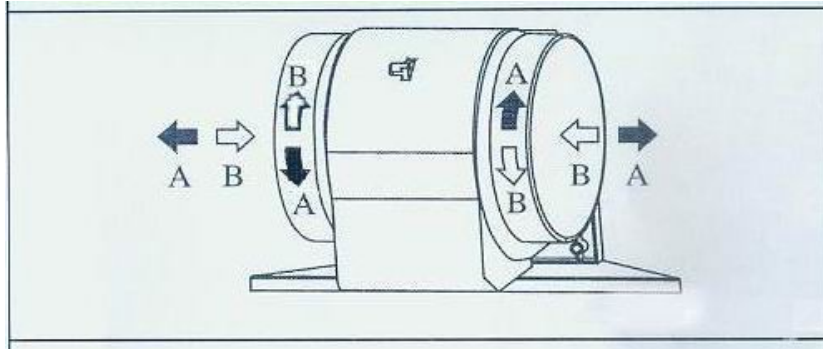

Fig.4
If the model of your chimney hood need to shift from pipe emission to filter model ,you can get help from the installation instruction after you get the charcoal filters. (Fig.4)
- The active carbon filters purify the air that is replaced in the environment. The filters are not washable nor re-useable and must be replaced at maximum every four months. (Fig.4)